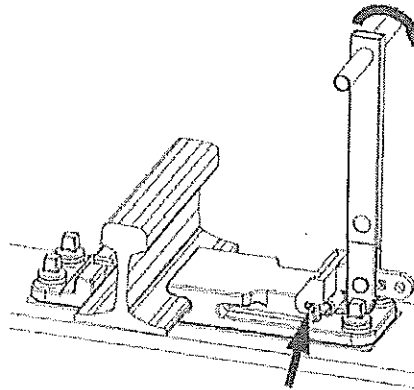

Fig. 52-Drive IFAST spring with installation tool into position
- Attach the assembly tool to the slide chair and drive the IFAST spring to the stock rail until the end of the spring is in contact with the slide chair, Fig. 52.